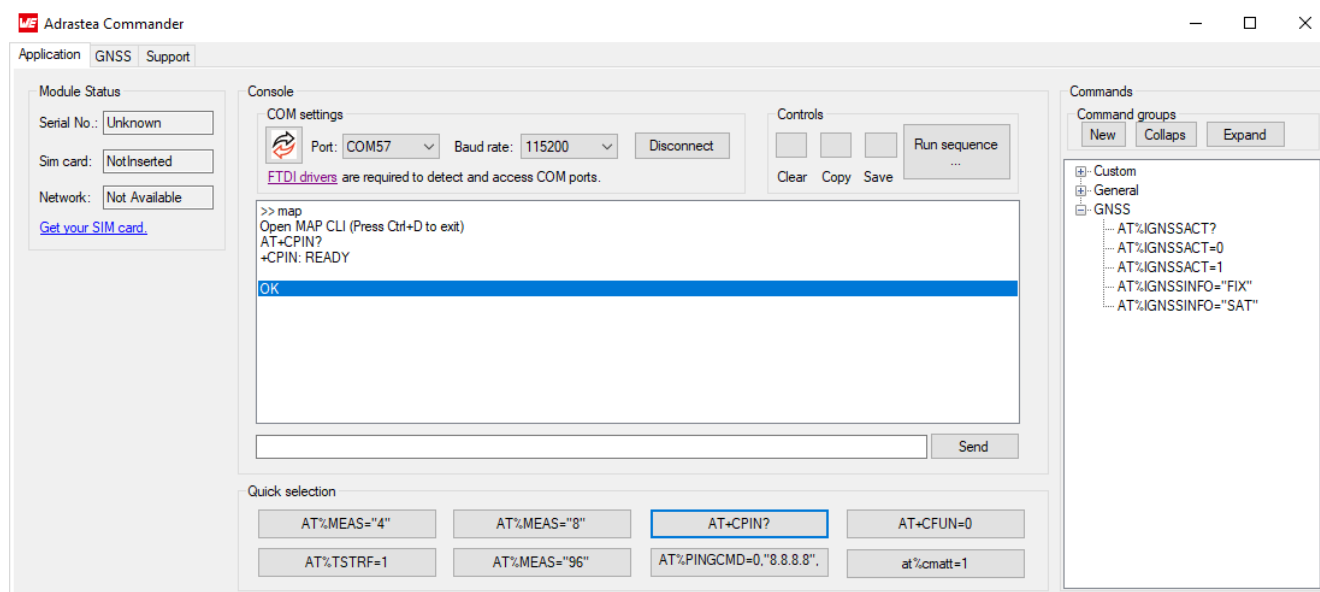

Figure 18: SIM card detected - Adrastea Commander
7. Check if the SIM card is detected. Send command MAP follow by the command AT+CPIN?. See figure 18.